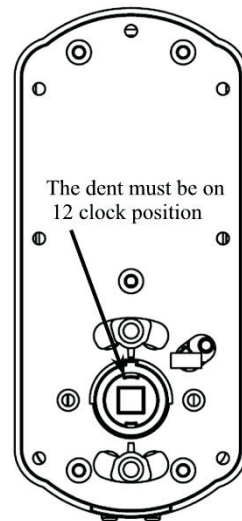

fig. 1
1.1 The dent should be on the 12-clock position (see fig. 1), if not, rotate Square Spindle to let the dent be on the 12-clock position.